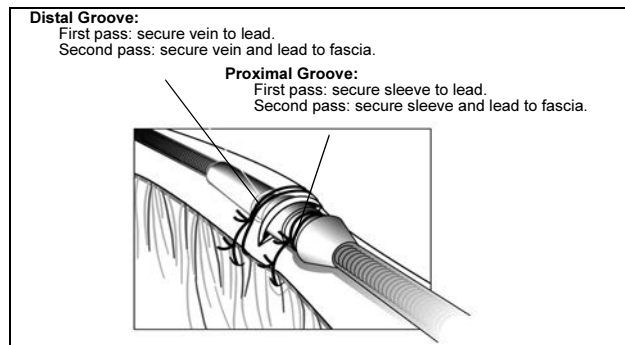

Figure 14. Using the sleeve with the venous cutdown technique.
1. Slide the suture sleeve into the vein past the distal pre-formed groove. Ligate the vein around the suture sleeve to obtain hemostasis. Next, using the same groove, secure the lead and vein to the adjacent fascia (Figure 14).